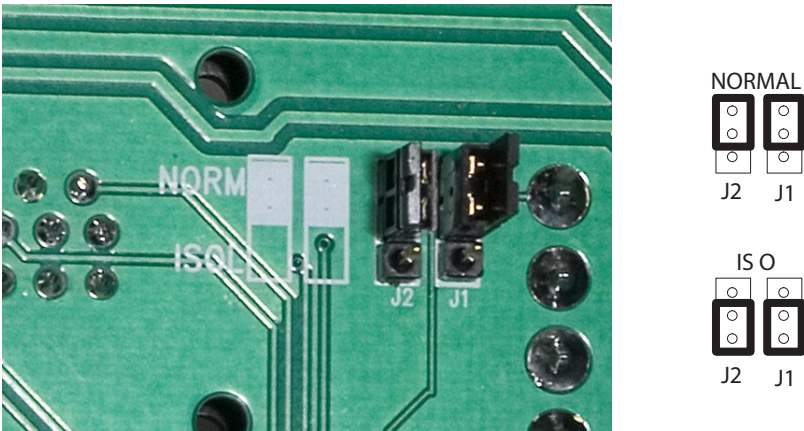

Figure 3-7 Machine Stop Interlock Jumper Settings — Shown Set to Normal
See Figure 3-7. To access the Machine Stop Interlock jumpers remove the system controller cover. The jumpers are on the back of the I/O connector circuit board.
- Both jumpers must be set to one of the two positions as shown in Figure 3-7.